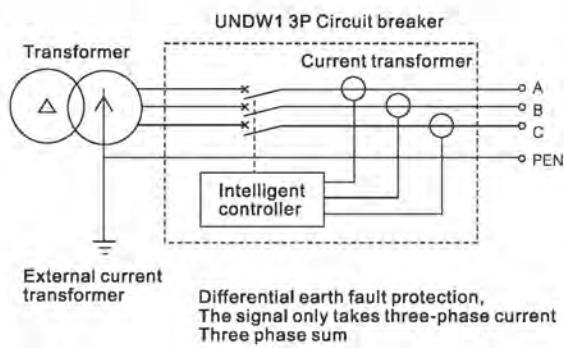
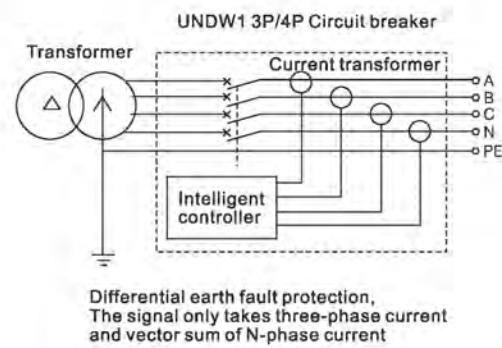
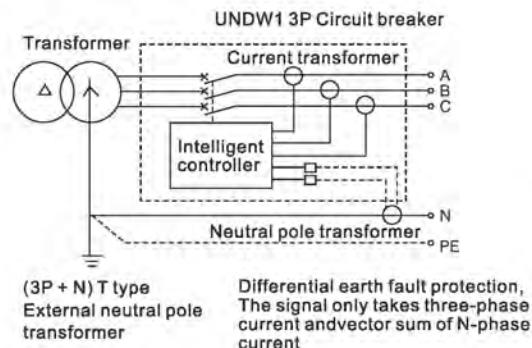

Figure 3. 3PT grounding difference type
Figure 4. 4PT grounding difference type
Figure 5 (3P + N) T type grounding difference type
Single phase earth leakage protection refers to metal grounding protection with fault current over several hundred amperes, which is generally used in neutral point direct grounding system. The controller is divided into two different protection modes, one of which is differential type (T). The controller can be divided into 3pt, 4PT and 3P + n according to the vector sum of three-phase current and neutral pole phase current. See Fig. 3, FIG. 4 and Fig. 5 respectively. The other is ground current type (W). The controller directly takes the output current signal of an additional current transformer between the neutral point of the main power supply and the ground for protection, and a neutral pole transformer or current transformer is added between the N line of the transformer and the PE level.